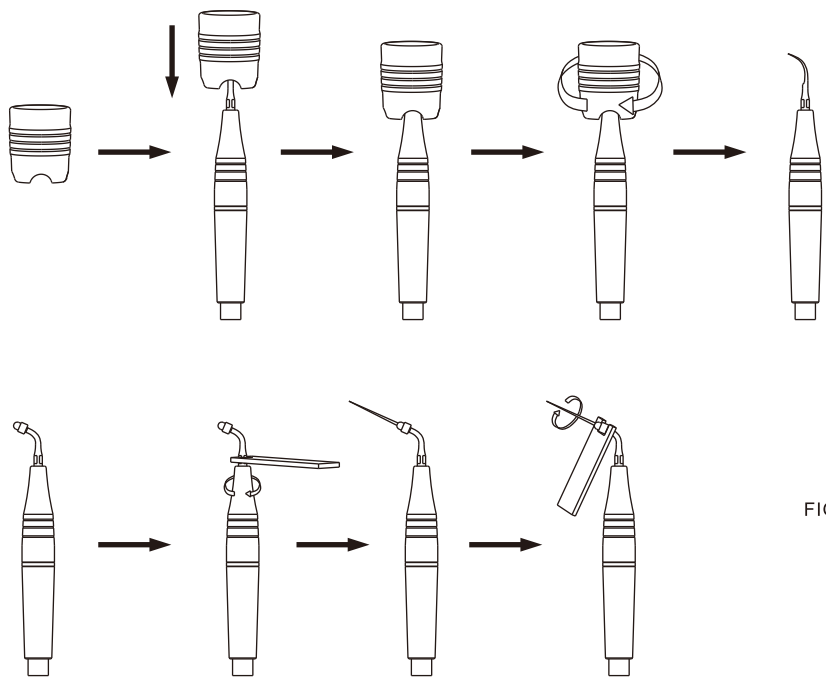

FIGURE 9
2.1.3 Instruction of wrench using (See figure 9)